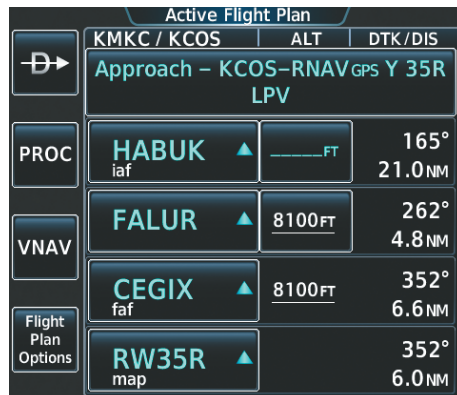

Figure 5-189 FALUR Not Designated for Vertical Guidance
13) Note the altitude constraints associated with each of the approach waypoints as seen in Figure 5-189. The altitudes loaded from the database are displayed as light blue text, indicating these values are “designated” for use in computing vertical deviation guidance. Items in white are “non-designated” and are not used for computing vertical guidance.